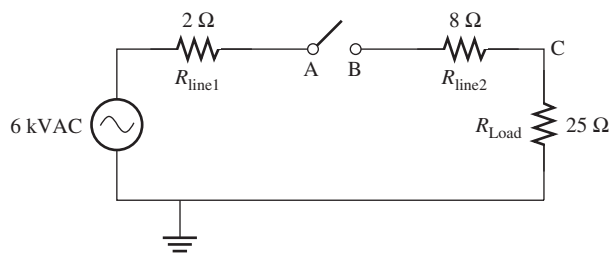

FIGURE P15.25 Circuit for Problem 15.25.
- 15.25** (A)* What is the maximum power available for an arc across the load (between point C and the ground) in Figure P15.25? Also, find the maximum power for an arc across the circuit breaker between points A and B.